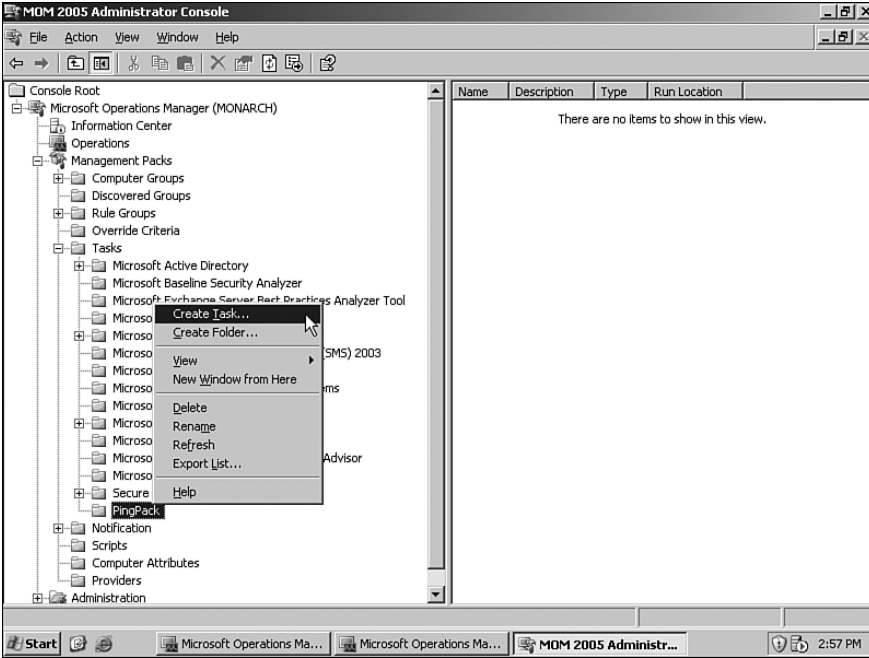

FIGURE 20.27 Create the PingPack task.
2. After creating the folder that will hold our new task, open the folder and right-click to create a task as shown in Figure 20.27.